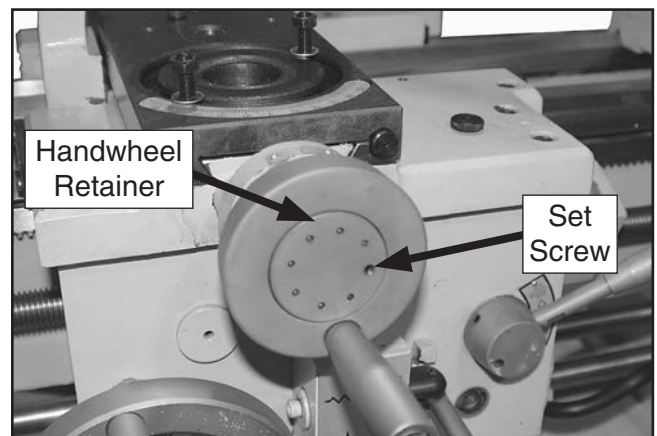

Figure 7. Handwheel retainer set screw location.
7. Loosen the set screw on the cross slide handwheel retainer (see **Figure 7**), and rotate the retainer counterclockwise to unthread and remove it from the handwheel.